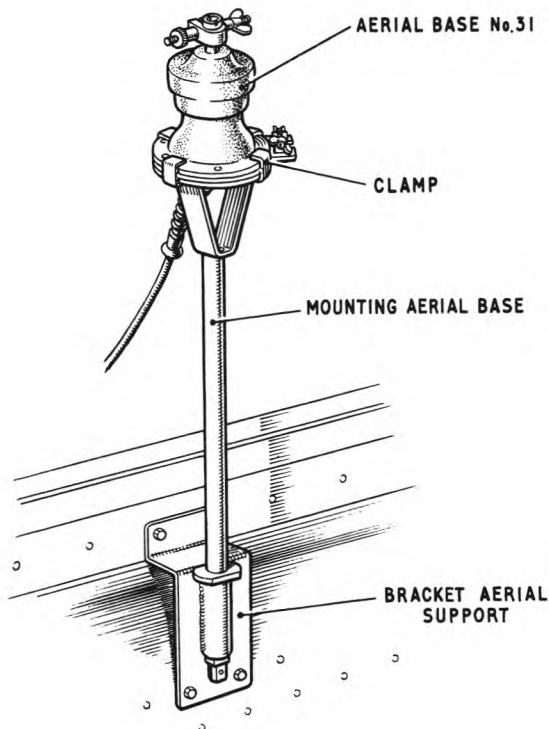

FIG. 28 HF AERIAL BRACKET WITH MOUNTING AND BASE FITTED
- Fit the two halves of the clamp on the plate plastic, screw clamp upwards as in fig. 28, and engage the two dowel pins in any two adjacent holes. Position it so that the clamp does not project outwards from the side of the vehicle.
- Open the clamp sufficiently to allow the aerial base to be placed on the two dowel pins. Then close the clamp to bring the holding lugs together so that they grip the mounting and plate underneath, and the aerial base on the top. Tighten the wing nut to secure the assembly. See fig. 28.